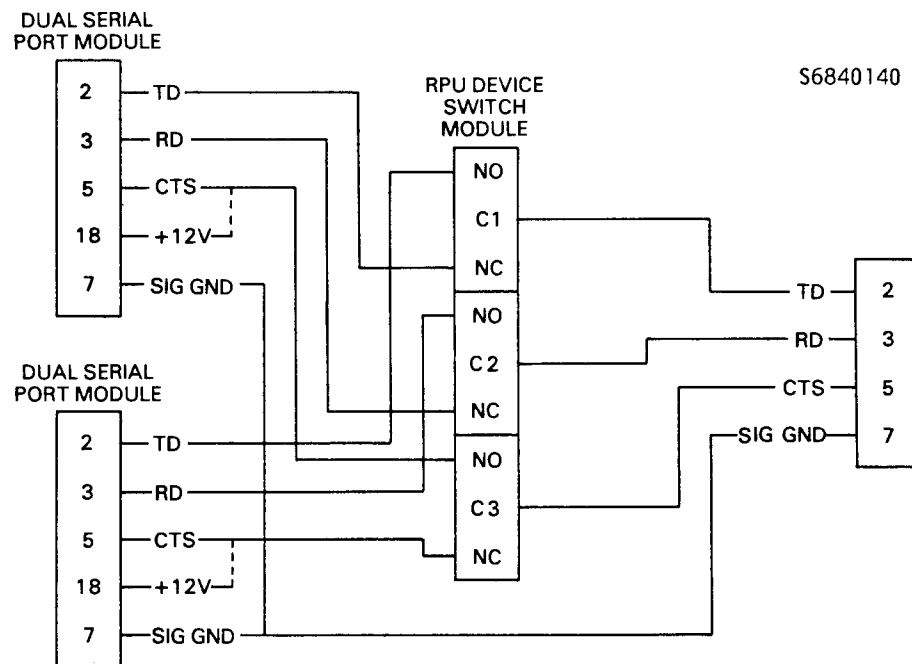

Figure 2. Peripheral Connections
Set the option jumpers as described in Figure 2. Install the Device Switch Module in the eighth slot from the left of the RPU, using the extraction/insertion tool supplied with the RPU to seat it firmly in place.
- Sharing a CRT or printer between a Master or Backup CPU (see Figure 2).